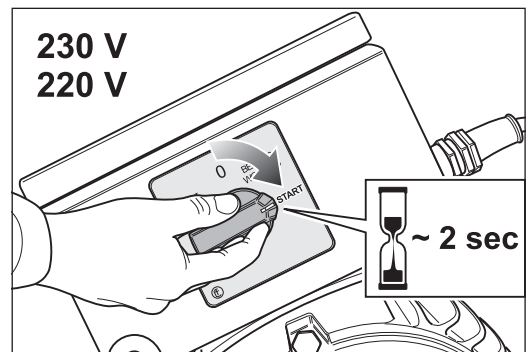

Fig. 22 To switch on the machine turn the switch button at the motor to position **-START-** and hold the switch button for around 2 seconds in this position.
- To switch on the machine turn the switch button at the motor to position **-START-** and hold the switch button for around 2 seconds in this position (Fig. 22).